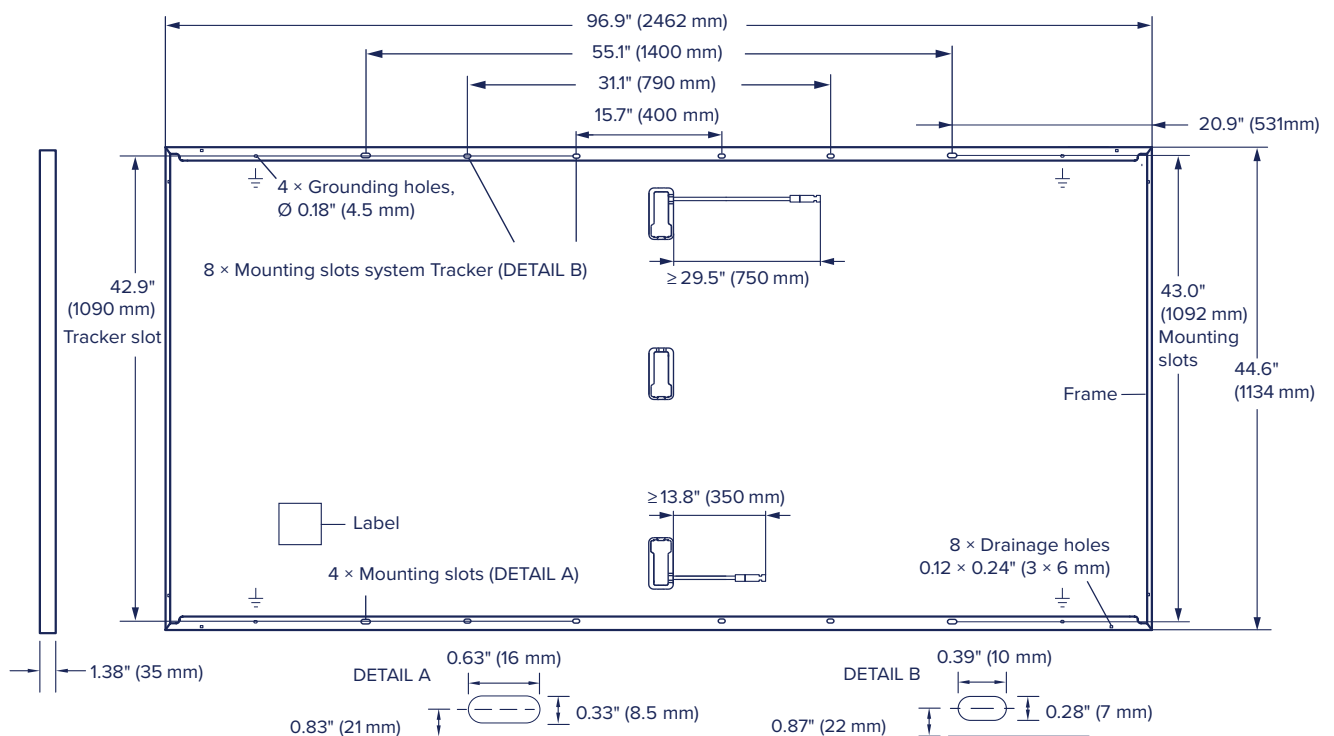

Fig. 1: External dimensions and components for Q.TRON XL-G2.3/BFG
- Clamp position: center of contact area in the axis of the mounting slots (Detail A, Fig.1) or closer to the hollow chamber.